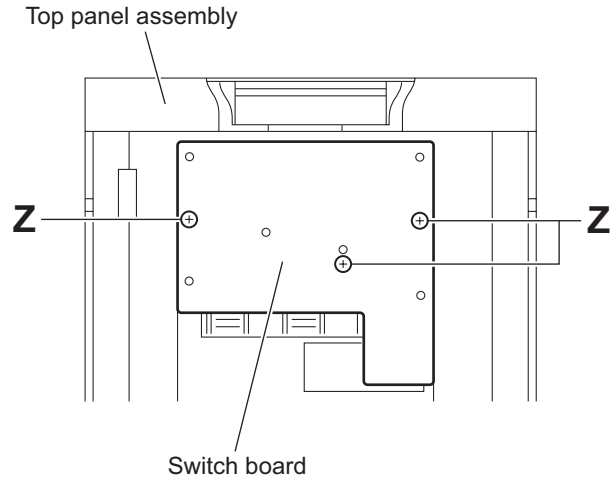

Fig.29
3.1.13 Removing the switch board (See Fig.29)